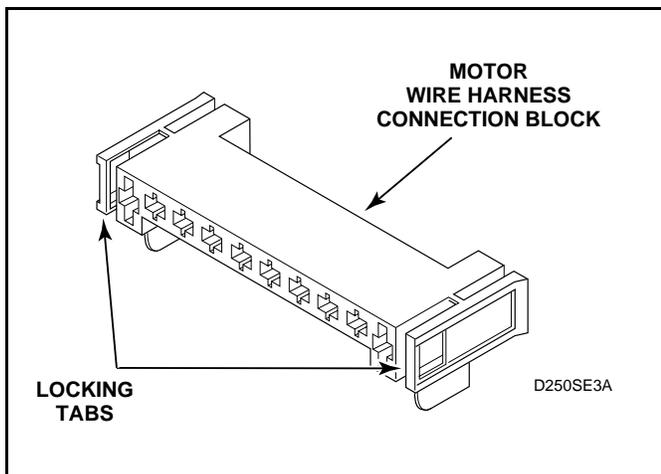

Figure 45
- Disengage motor wire harness terminal block from motor switch by pressing in on the movable locking tabs (located on each end of the terminal block) and pulling away from motor. See *Figures 45 and 46*.
- (1.) Disengage motor wire harness terminal block from the motor by pressing in on the movable locking tabs (located on each side of the terminal block) and pulling away from motor. See *Figure 45*.